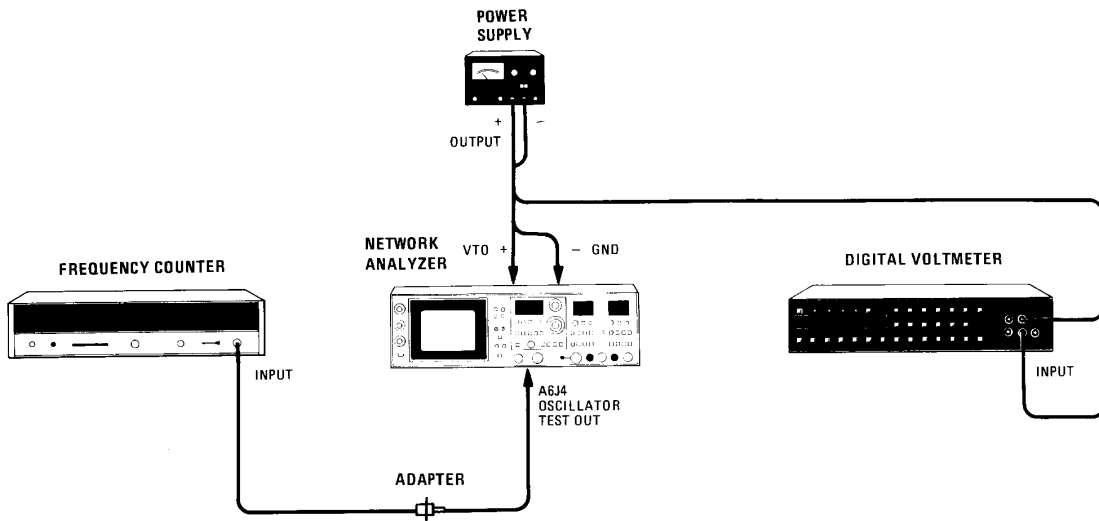

Figure 5-18. VTO Frequency Adjustment Test Setup
- a. Connect equipment as shown in Figure 5-18. Remove A13 Phase Lock Assembly.